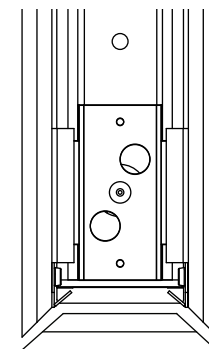

Fig. 6
10. Adjust trim panels horizontal position along the fixture so that the inside edge of chamfer aligns with edge of cosmetic bezel on endcaps (See figure 6.)
16. Adjust trim so that the inside edge of chamfer aligns with edge of cosmetic bezel on endcaps (See page 3 figure 6.)